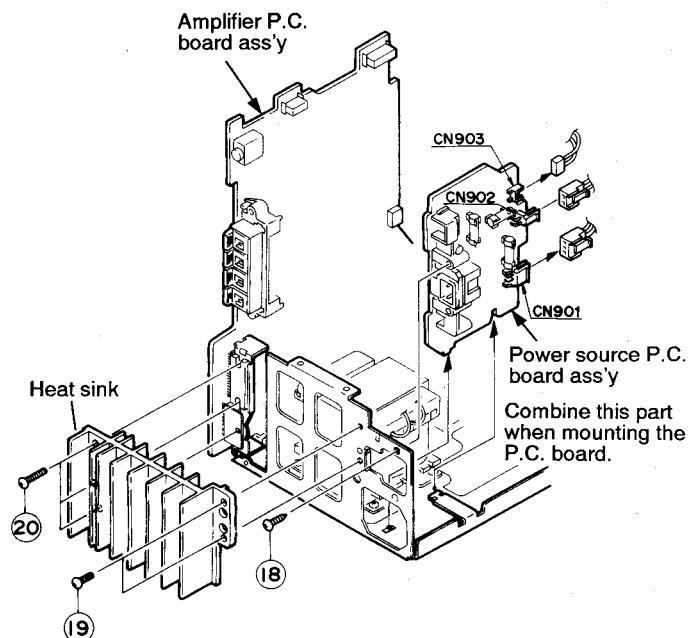
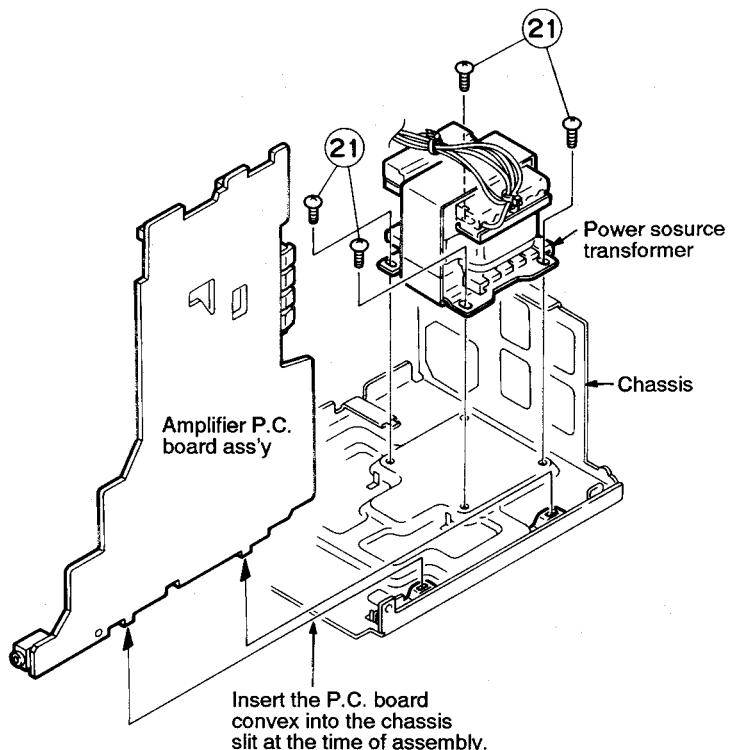

Fig. 7-20
Fig. 7-21
■ How to Remove the Power Source P.C. Board (Refer to Fig. 7-20)
6. Remove the one screw (18) retaining the AC jack.
■ How to Remove the Amplifier P.C. Board (Refer to Fig. 7-21)
3. Remove the two screws (19) retaining the heat sink.
- Reference:** For dismantling the power IC, remove the three screws (20) retaining the heat sink.